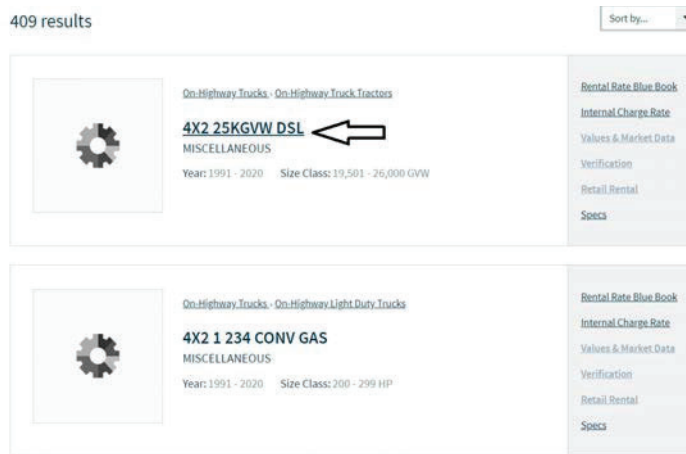

Figure 4-17: EquipmentWatch Search Results
- iii. The Results of the Search display. Click on the equipment item that best matches your inquiry (Figure 4-17).